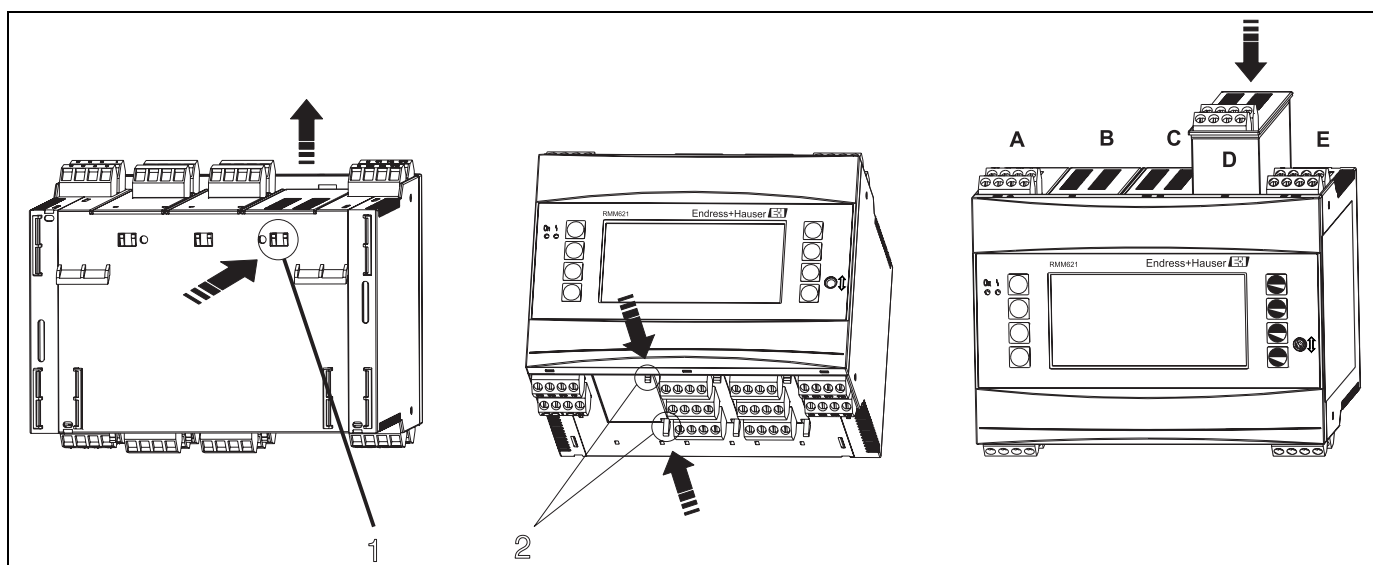

Fig. 3: Installing an extension card (example)
You can equip the device with various extension cards. A maximum of three slots are available in the device for this. The slots for the extension cards are marked with B, C and D (→ Fig. 3) on the device.
2. Remove the blanking cover from the slot (B, C or D) of the basic unit by pressing together the catches on the bottom of the device (see Fig. 3, item 2), while at the same time pressing in the catch on the rear of the housing (e.g. with a screwdriver) (see Fig. 3, item 1). Now you can pull the blanking cover up out of the basic unit.
3. Insert the extension card into the basic unit from above. The extension card is not correctly installed until the catches on the bottom and rear of the device (see Fig. 3, items 1 and 2) lock into place. Ensure that the input terminals of the extension card are on top and the connection terminals are pointing to the front, as with the basic unit.